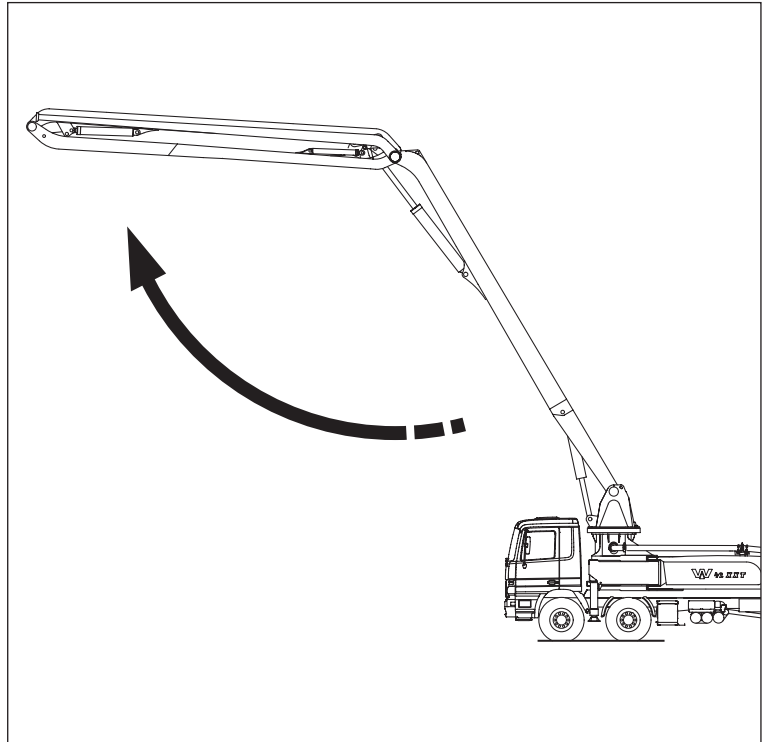

Fig. 7.14 Deploy boom element B
- Press the master switch “Deploy boom element B” (**2**) and deploy boom element B until it is approx. 120° to boom element A (see Fig. 7.14).
- Press the master switch “Deploy boom element B” (Item 2, Fig. 7.18) and deploy boom element B until it is approx. 120° to boom element A (see Fig. 7.14).